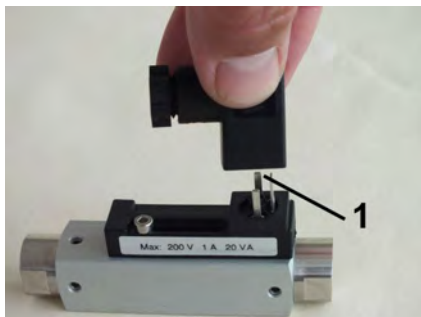

Fig. 21: Remove socket
2. ➤ Remove the socket (Fig. 21/1)